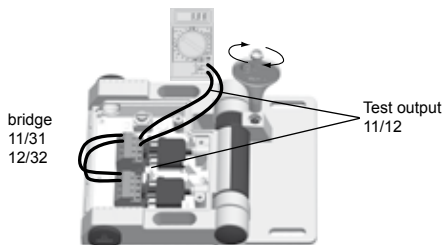

Fig. 5
3. Wire both NC contacts parallel, connect terminal 11 with 31 and terminal 12 with 32 (Fig. 5)
4. Connect the continuity tester to the terminals 11/12 of the NC contacts or use the test handles at the terminals (Fig. 5).